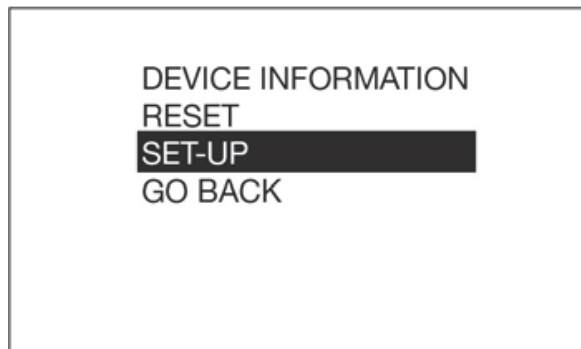

FIG. 24
4. Use the UP or DOWN ARROW button on the keypad to highlight SET-UP (FIG. 24) and then press the center ENTER button on the keypad to select the SET-UP option.